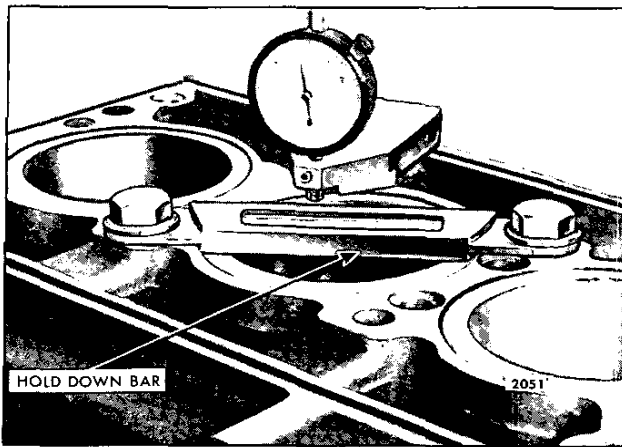

Fig. 7 - Checking Distance of Liner Flange Below Top Face of Block Using J 22273-01 and Hold-Down Tool J 21793-B
4. Install a cylinder liner hold-down clamp as illustrated in Fig. 7.
5. Measure the distance from the top of the liner flange to the top of the block with a dial indicator (Fig. 7). The liner flange must be .0465" to .0500" below the top of the block. However, even though all of the liners are within these specifications, there must not be over .002" difference between any two adjacent liners when measured along the cylinder longitudinal center line. If the above limits are not met, install the liner in another bore and recheck, or use a new liner.